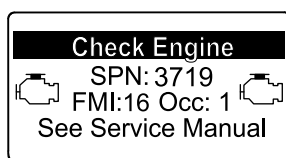

Figura 40
- Engine warning (AVERTISMENT MOTOR) SPN 3720, FMI 16 (Figura 40)